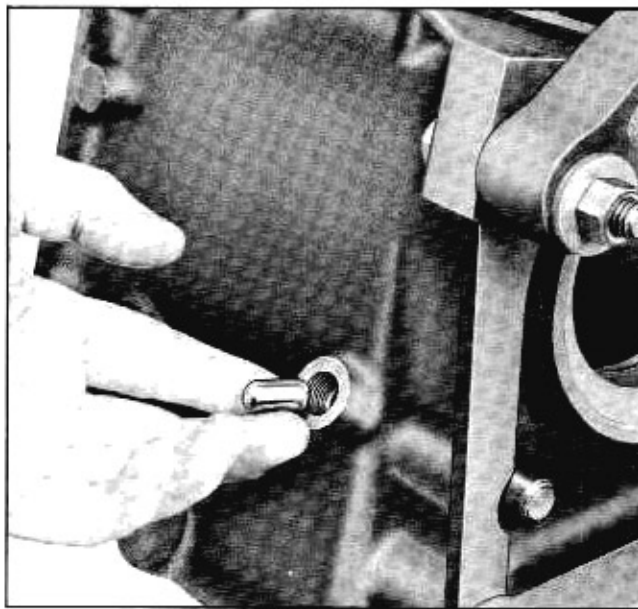

Fig. 7-42 Installing Interlock
12. Coat interlock lightly with oil and install in detent cavity. (Fig. 7-42).